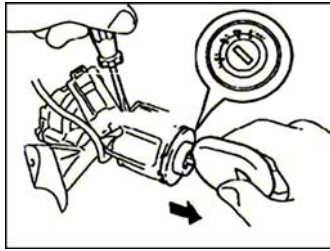

Fig. 2-36
- ① Use a center punch to make center marks on the two conical bolts.
- ② Drill the two bolts by a 3-4mm drill.
- ③ Remove 2 bolts and switch support assembly on the steering column by a screwdriver.
19) Remove the ignition switch lock core assembly as shown in Fig. 2-36.